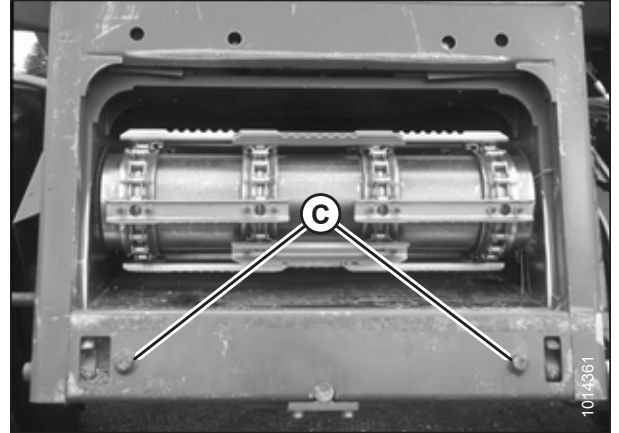

Figure 4.53: AGCO Group Alignment Pins
3. Start the engine and slowly approach the header until the feeder house is directly under float module top cross member (A) and alignment pins (C) (refer to Figure 4.53, page 355) on the feeder house are aligned with holes (B) in the float module frame.